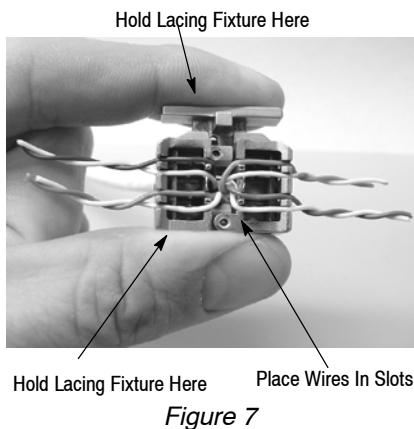

Figure 7
12. Close the lacing fixture around the cable. Lacing fixture 1673956-1 contains a ball detent to keep the fixture closed. This fixture should be held by the cable clamp and by the bottom to keep the cable from moving during wire lacing. Refer to Figure 7.
fixture to the outside wire position slot. See Figure 7.